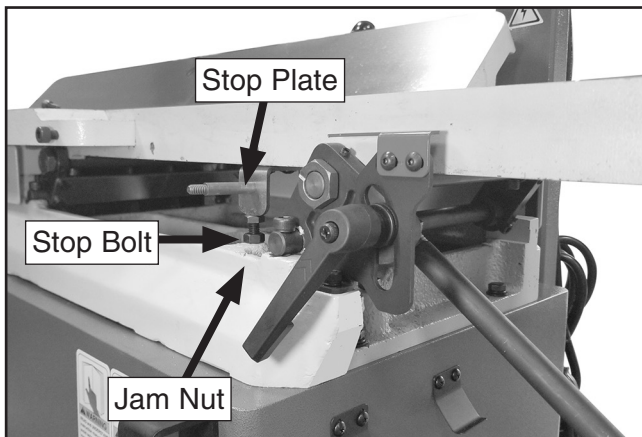

Figure 58. Location of $\frac{1}{8}$ " infeed table stop bolt and jam nut.
- Loosen jam nut on the $\frac{1}{8}$ " stop bolt (see **Figure 58**), and then rotate stop bolt clockwise a couple turns to move it down, so it will clear the stop plate during adjustment process in later steps.
- Rotate stop bolt (see **Figure 58**) counter-clockwise to move it upward until it makes firm contact with stop plate (see **Figure 58**).
- Hold stop bolt in place, and tighten jam nut (see **Figure 58**) down firmly against the casting to secure stop bolt in place.